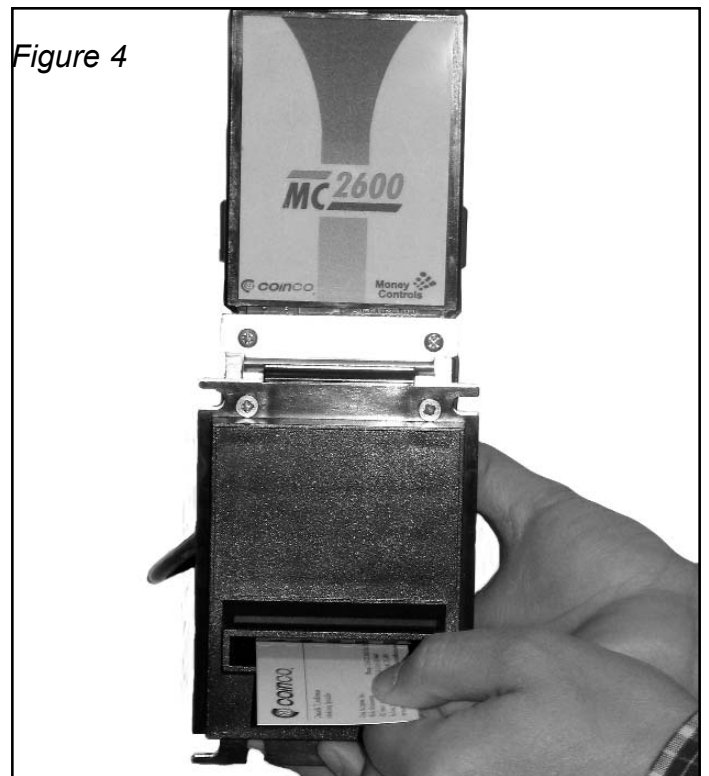

Figure 3
1. Slide red button located on the top of the unit forward. Lift up and pull back on cashbox assembly. (Figure 3)